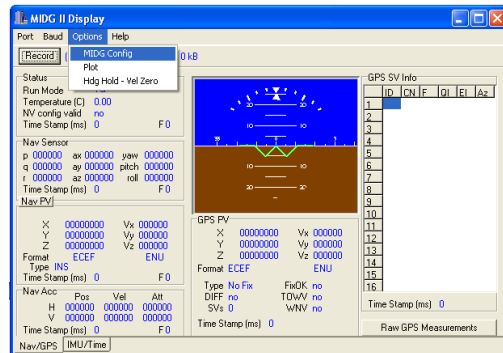

Figure 1. MIDG Display Utility with "MIDG Config" option selected.
2. **Select "Options" from the Menu Bar then Select "MIDG Config" (Figure 1).**